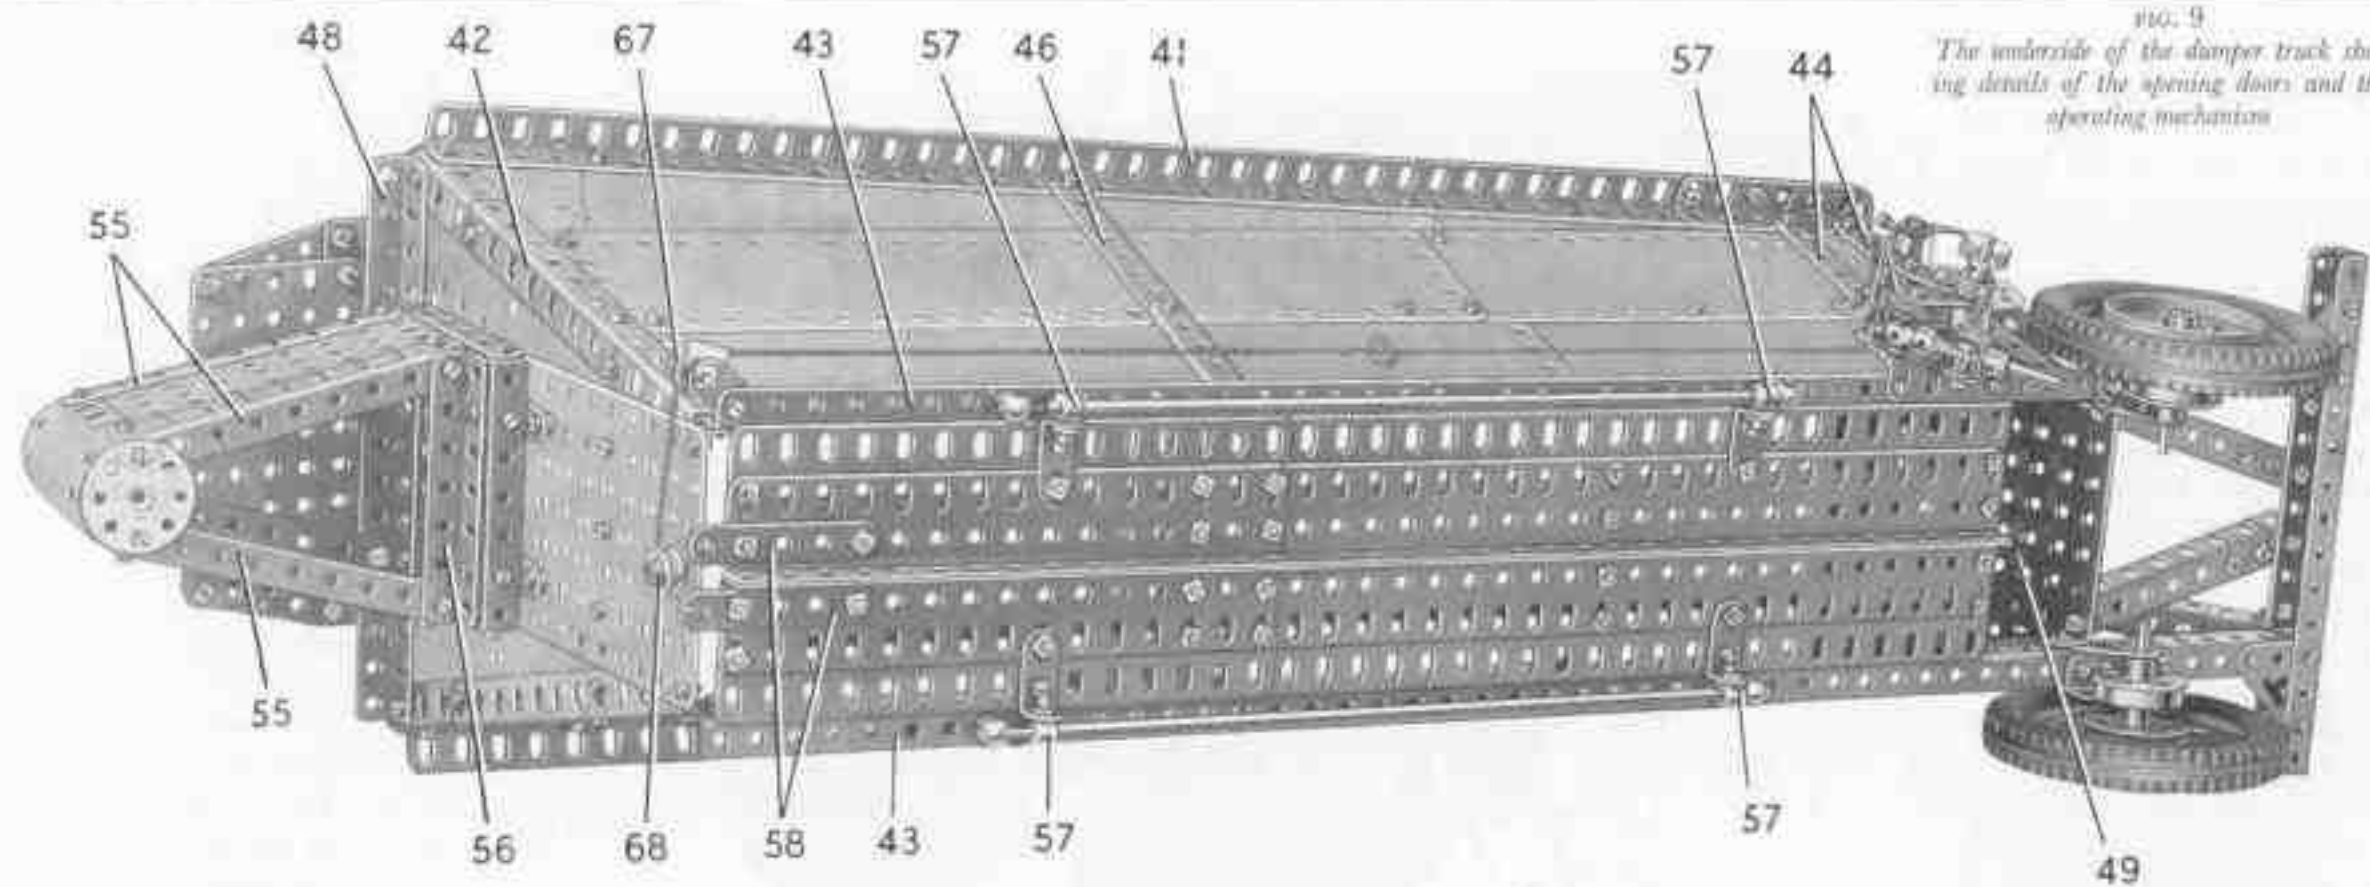

FIG. 9
The rear end of the body consists of a  $5\frac{1}{2}'' \times 3\frac{1}{4}''$  Flat Plate (49) (Fig. 9)
A Girder Bracket is bolted to one of the Girders (43) and to it is fixed a  $\frac{1}{2}"$  Reversed Angle Bracket to which are bolted a  $2\frac{1}{2}"$  Strip (59) (Fig. 10) and two  $1\frac{1}{2}"$  Strips (60). A second  $2\frac{1}{2}"$  Strip is fixed to the Girder Bracket and is connected to Strip (59) by an Angle Bracket and a  $1"$  Reversed Angle Bracket. The  $1"$  Reversed Angle Bracket is bolted to the side of the dumper body (Fig. 9). Two  $3"$  Strips are connected at their lower ends by a large Fork Piece (61), which is attached to one Strip by a lock-nutted  $\frac{3}{16}"$  bolt and to the other Strip by a lock-nutted  $\frac{1}{4}"$  Bolt (62). The  $3"$  Strips pivot on a  $2"$  Rod, which is held in the Strips (60) and the Girder Bracket by a  $\frac{1}{2}"$  fixed Pulley and a  $\frac{1}{2}"$  Pinion. A  $1"$  Rod is mounted freely in the top holes of the  $3"$  Strips and is fitted with a  $\frac{3}{4}"$  Sprocket (63), a 57-tooth Gear (64) and a Ratchet Wheel. A Pawl, which is fitted with a  $\frac{1}{2}"$  Bolt (65) to form a release handle, is mounted on a Pivot Bolt held in the Strip (59). The Pawl engages the teeth of the Ratchet and is held against them by a short piece of Spring Cord (66).
One end of a length of Cord is tied to the boss of the Sprocket (63) and its other end is tied to a Washer. Two separate lengths of Cord are also fastened to the Washer, and each of these is led over one of two 1/2" loose Pulleys (67) (Fig. 9), which are mounted on a 3/8" Bolt held in a Fishplate by two nuts. Both Cords are then passed over a 1/2" loose Pulley (68), and each is tied to one of the Strips (59) of the doors. The Fishplate that supports the Pulleys (67) is bolted to one of the Girders (43) and an Angle Bracket on the 3/8" Bolt serves to keep the Cords on the Pulleys.